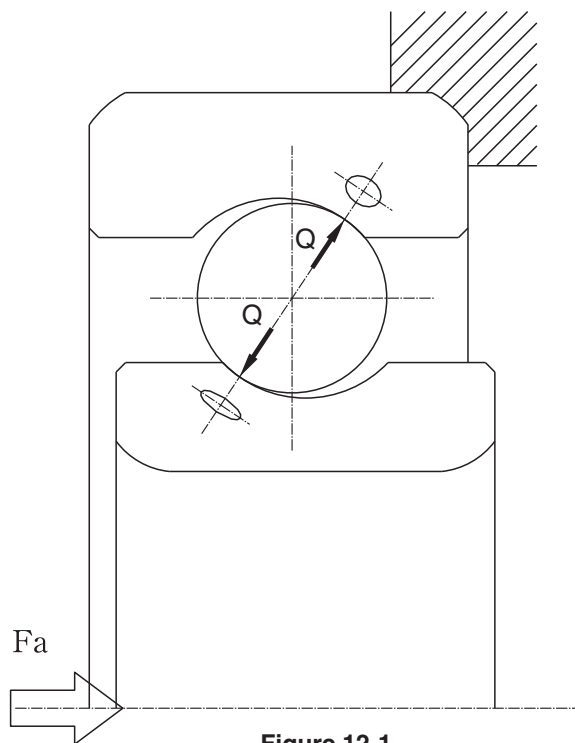

Figure 12-1
If there is any internal clearance in a ball bearing, the balls will have more play, the stiffness of the ball bearing will be minimal, and the vibration levels of the shaft will increase. Therefore, internal clearance needs to be adjusted to zero by applying an axial load (Fa) as shown in the figure 12-1. This load, applied in the axial direction, is called the "preload," and reduces vibration and noise. It is not enough to apply the appropriate preload method; the magnitude of preload should also be selected carefully to the required performance of the ball bearing. If the preload is applied excessively, the bearing stiffness will increase. However, bearing life will be shorter, and bearing noise will increase as well. If the applied preload is insufficient, fretting damage could occur due to vibration and low bearing stiffness. Therefore, selecting the appropriate preload is an important factor when considering the performance of a ball bearing.
In figure 12-1, the contact ellipse area (S) between the balls and raceways is formulated as